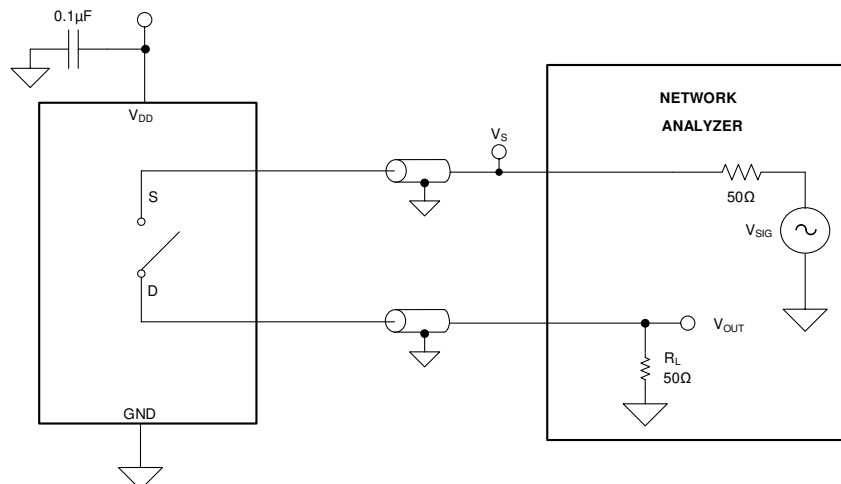

图 7-6. Off Isolation Measurement Setup
Off isolation is defined as the ratio of the signal at the drain pin (D) of the device when a signal is applied to the source pin (S) of an off-channel. The characteristic impedance,  $Z_0$ , for the measurement is  $50 \Omega$ . 图 7-6 shows the setup used to measure off isolation. Use off isolation equation to compute off isolation.